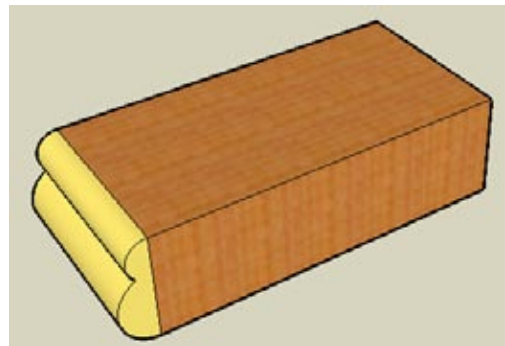

Figure 4-16
2. Use Push/Pull to pull the rounding face along one edge (Figure 4-16).